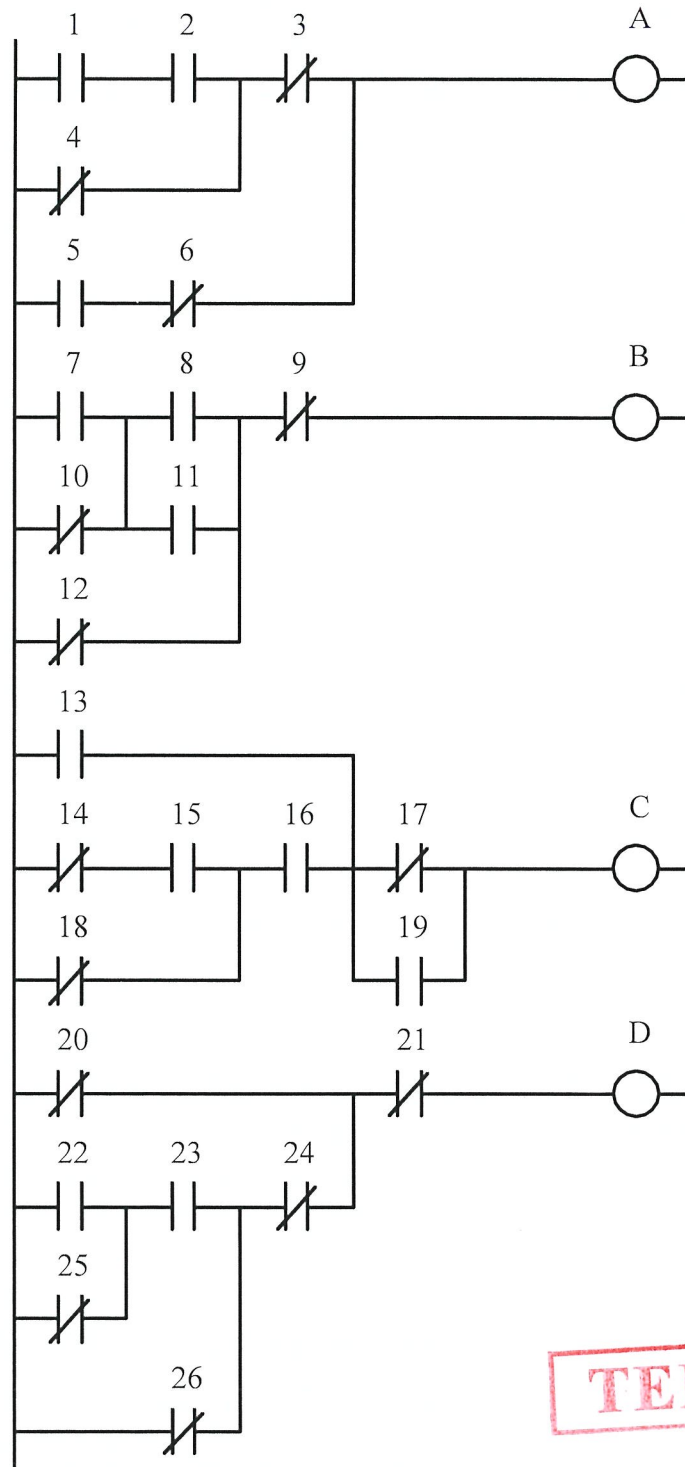

Figure Q5(b)
- (b) Construct the instruction list (mnemonic code) for the ladder diagram as shown in **Figure Q5(b)**. (16 marks)